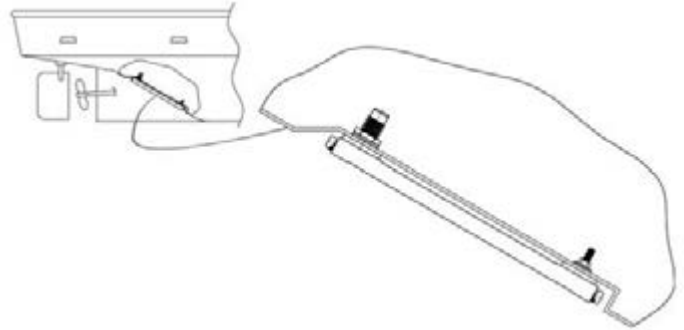

FIG. 9 U-Flow unit with E1 OPTION end mounted zinc anodes mounted on rake of vessel.
1.6.3 When installing a multiple-pass unit on an incline, make sure that the nozzles are at the high end to avoid air entrapment. See Figure 9.